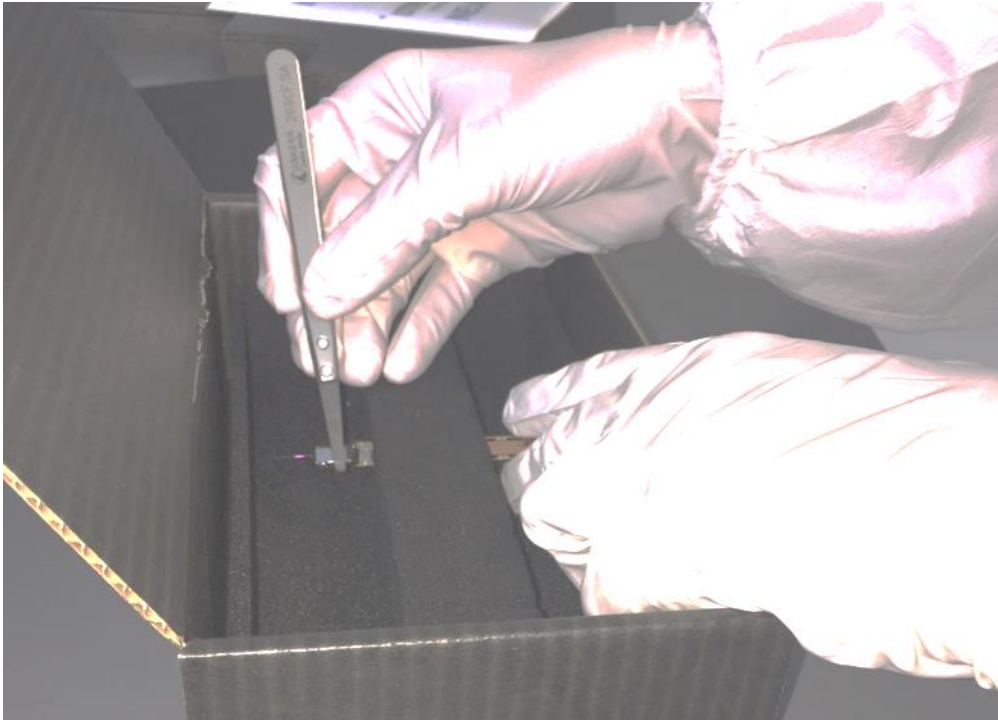

Figure 39: Removing the probe from the shipping box.
- Take a pair of ESD-safe tweezers and carefully clamp the base of the probe as shown in Figure 39.